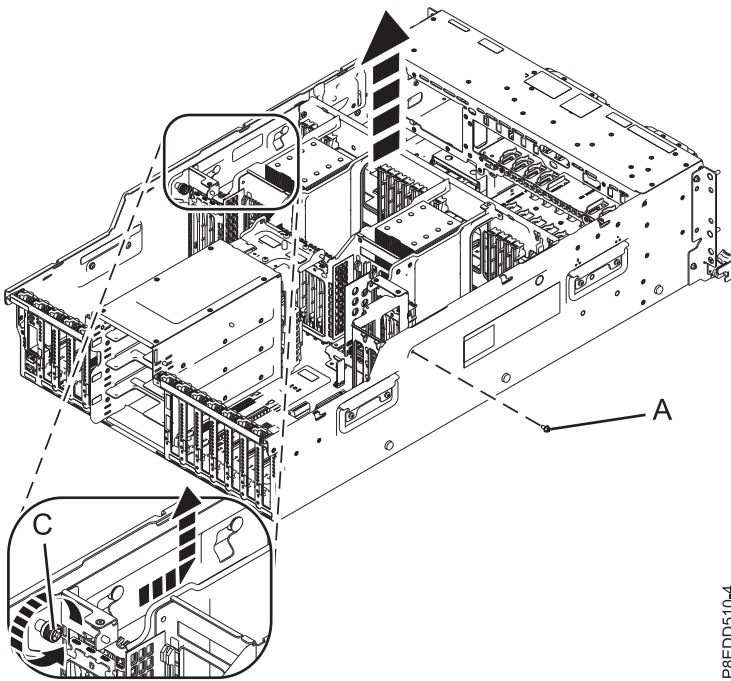

Figure 75. Removing the system backplane
- c. Using a Phillips screwdriver, unscrew and remove screw **(A)**. See Figure 75 on page 76.
- d. Unscrew the captive thumbscrew **(C)** until fully loose. See Figure 75 on page 76.
- e. Slide the system backplane in the direction that is shown in Figure 75 on page 76, then lift it up to remove it. Place the system backplane on an ESD surface.